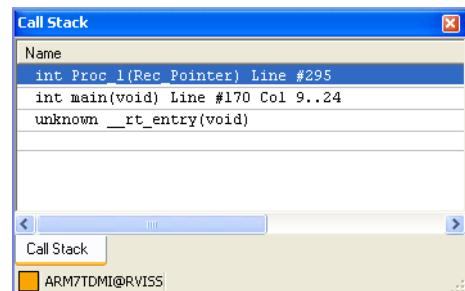

Figure 13-48 Multistatement details in the Call Stack view
7. Select **Call Stack** from the **View** menu to display the Call Stack view. Figure 13-48 shows an example: